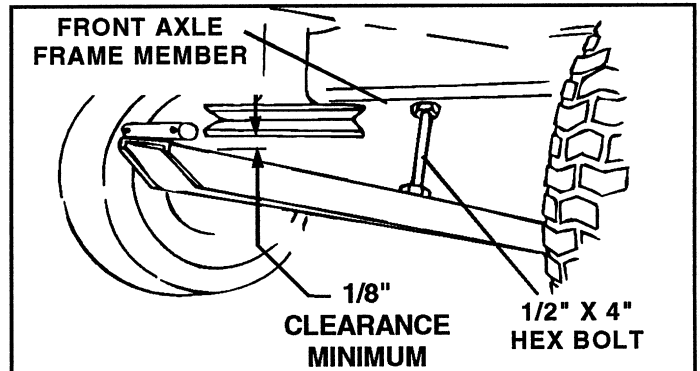

FIGURE 12
4. Adjust 1/2" x 4" stop bolt, previously assembled into channel assembly (step 1). See figure 12. Adjust jam nuts, above and below channel, to provide a **minimum 1/8" clearance** between channel and the tractor engine pulley with the stop bolt positioned against front axle frame member. See figure 12.